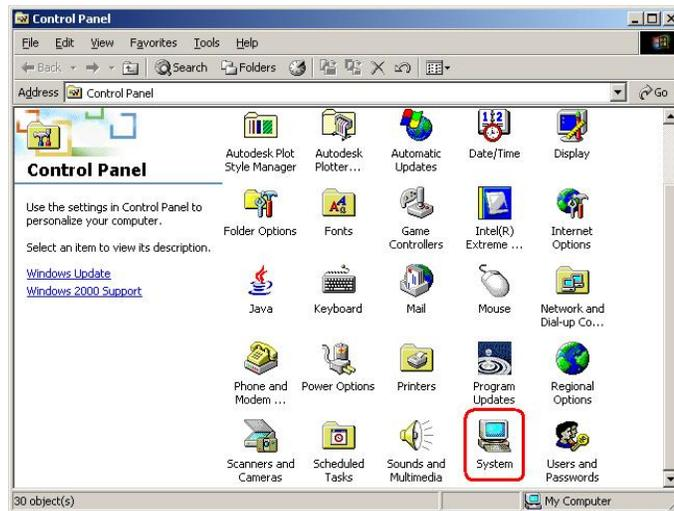

Figure 6-16: Double Click the System Icon
Step 2: Double click the **System** icon (Figure 6-16).